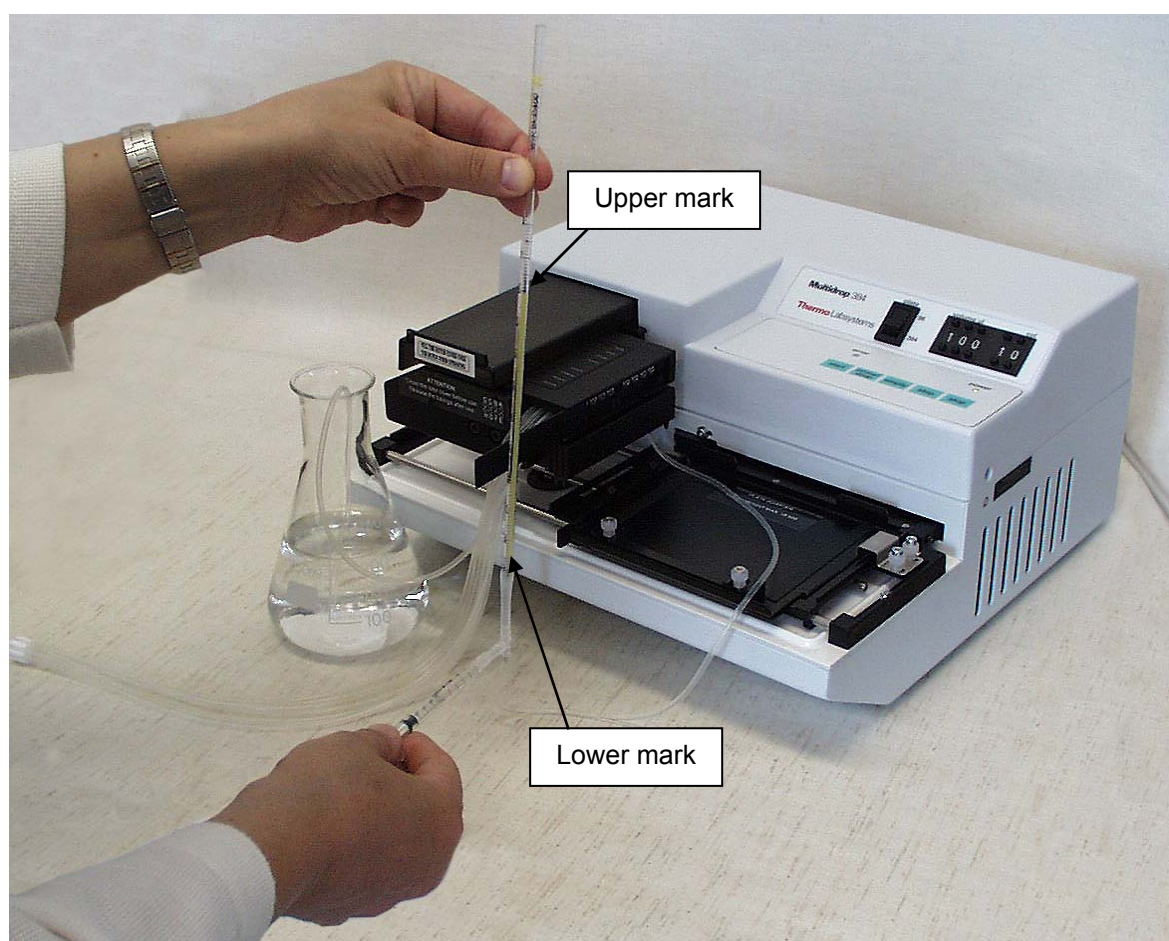

Fig. 7.6 Adjusting the liquid level first to the lower mark and then to the upper mark
11. Adjust the water level in the pipette to the lower mark by pulling or pushing the syringe piston (*Fig. 7.6*).
12. Press the **start** key and wait until the water level stops. It should be at the upper mark, 1000 μl ($\pm 1.5\%$) (*Fig. 7.6*).